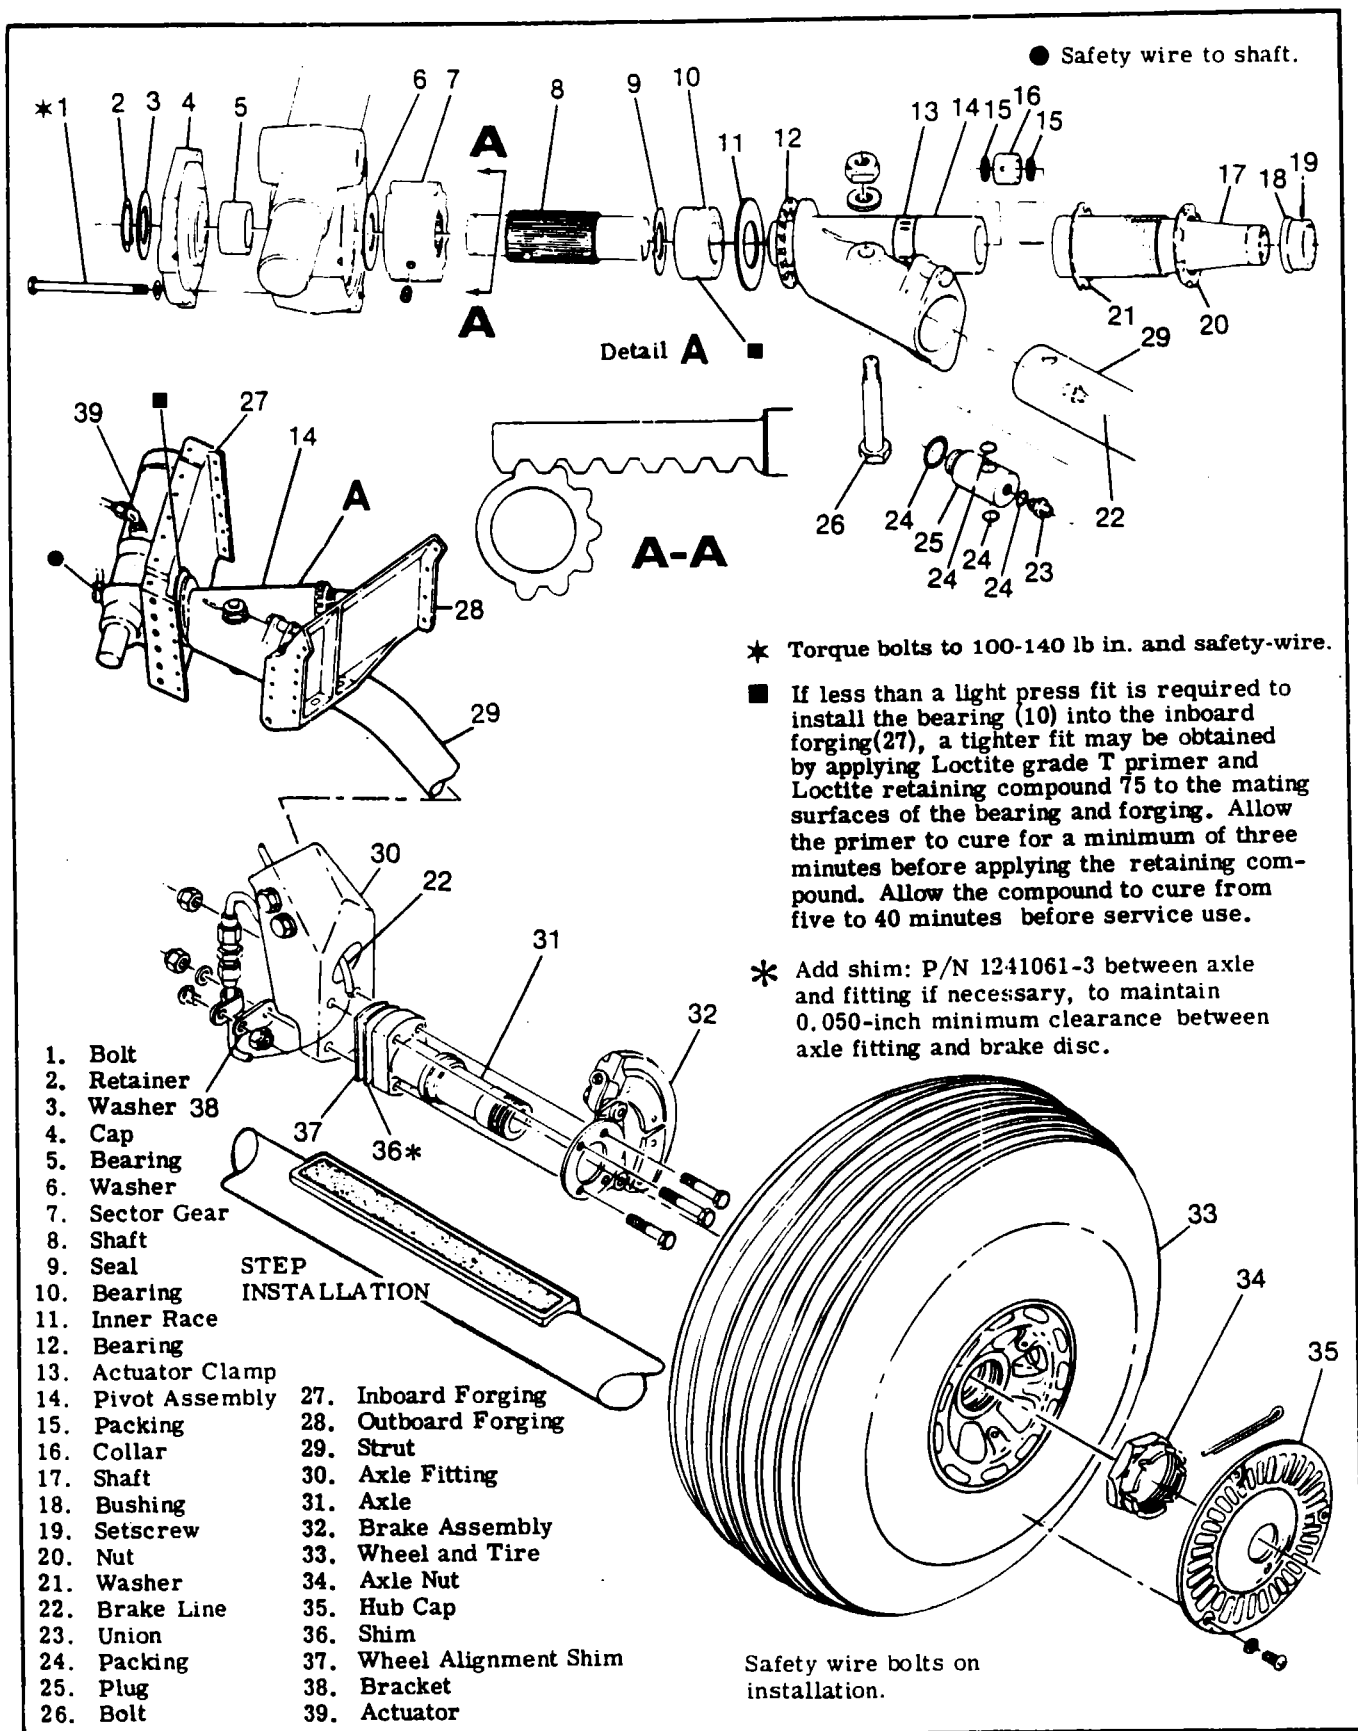

Figure 5-9. Main Landing Gear
5-37. MAIN LANDING GEAR. (Refer to figure 5-9.)
5-40. REMOVAL. (Refer to figure 5-9.)
5-41. INSTALLATION. (Refer to figure 5-9.)
1. Center and shim simultaneously main landing gear support assembly (13), using shims (P/N 1241629) between outboard forging (Index 28, figure 5-9), and landing gear support assembly (13), as shown in sheet 1, to level wings and assure that end points of main landing gear wheel axles are within $\pm .25$ -inch of water line plane. Total of shims to be within .025-inch to .075-inch.